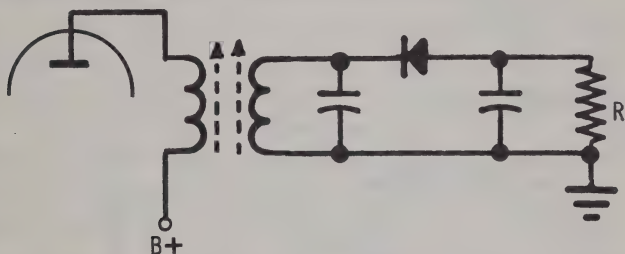

Fig. 6-10. Resistance checking this crystal diode circuit requires that the parallel resistance of the load be taken into consideration.
In-circuit testing is not difficult if you know what to watch for. Look for shunt components. Be careful, though. Two parts may be in parallel, but not necessarily adjacent to each other in the circuit diagram. Further, it isn't always easy to recognize shunt components. You need to have a knowledge of circuits and how they work. To illustrate this further, consider the circuit shown in Fig. 6-10. This is an ordinary crystal diode detector of the type used in radio and TV receivers. But therein lies a difference. Suppose the detector is in a TV set, with the load (R) somewhere between 2K and 4K. Can you resistance test the crystal in-circuit?